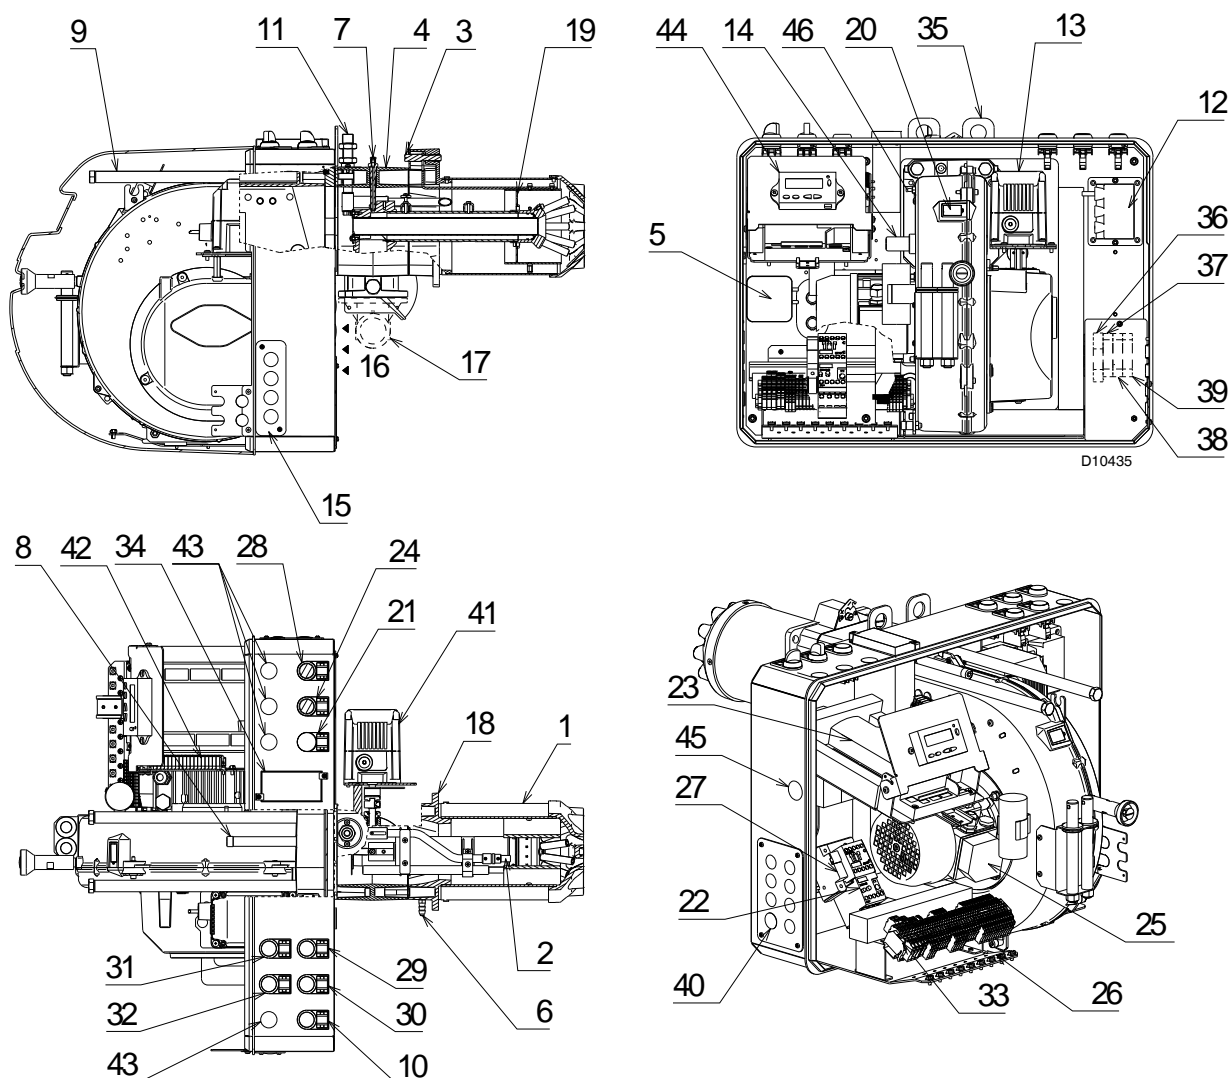

Fig. 1
(1) Reference conditions: ambient temperature 68 °F (20°C) - Barometric pressure 394" WC - Altitude 329 ft.
(2) Pressure at test point 7) (Fig. 1, page 7) with zero pressure in the combustion chamber and maximum burner output.
(3) Sound pressure measured in manufacturer's combustion laboratory, with burner operating on test boiler and at maximum rated output.
If the alarm signal lamp in "ON" 10)(Fig. 1) lights up, it indicates that the burner is in lock-out. To reset, press the reset pushbutton 44).